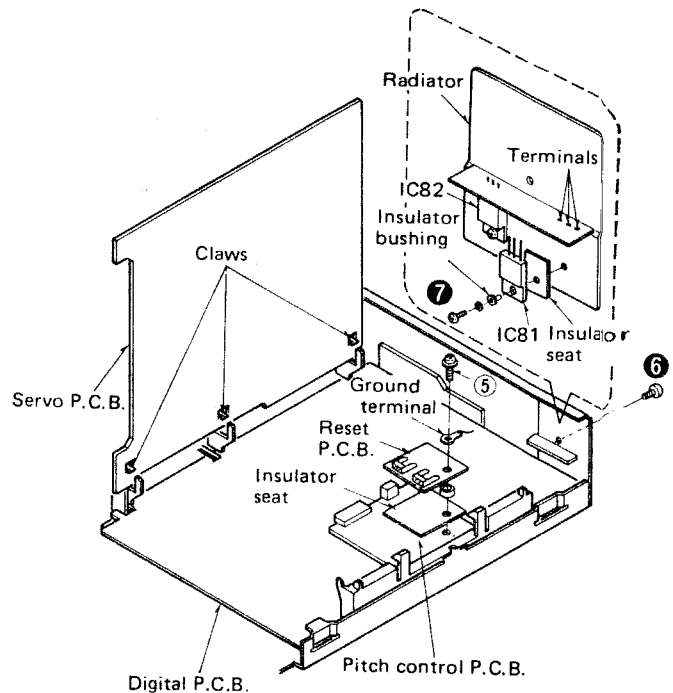

Fig. 3
4. When the servo circuit, digital circuit and pitch control circuit boards are checked, they should be in positions as in Fig. 3.
5. Release the 3 claws of the holder, then the servo circuit P.C.B. can be removed. Fig. 3]
2. Raise the servo P.C.B. as shown in Fig. 3.
3. Remove the P.C.B. setscrew [Fig. 3: ⑤].
3. Remove the radiator setscrew [Fig. 3: ⑥] of regulator IC.
5. Remove the IC setscrew [Fig. 3: ⑦].
5. Raise the servo P.C.B. as in Fig. 3.